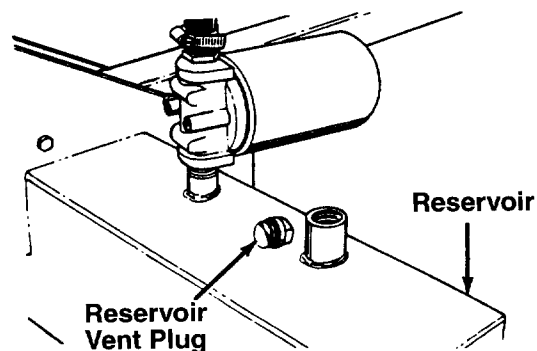

FIGURE 10.
- a. Remove reservoir vent plug. See figure 10. Using Dexron II automatic transmission fluid, or 10W non-foaming hydraulic fluid, fill reservoir to the top. Replace vent plug securely. Total capacity of system is approximately 4 gallons.